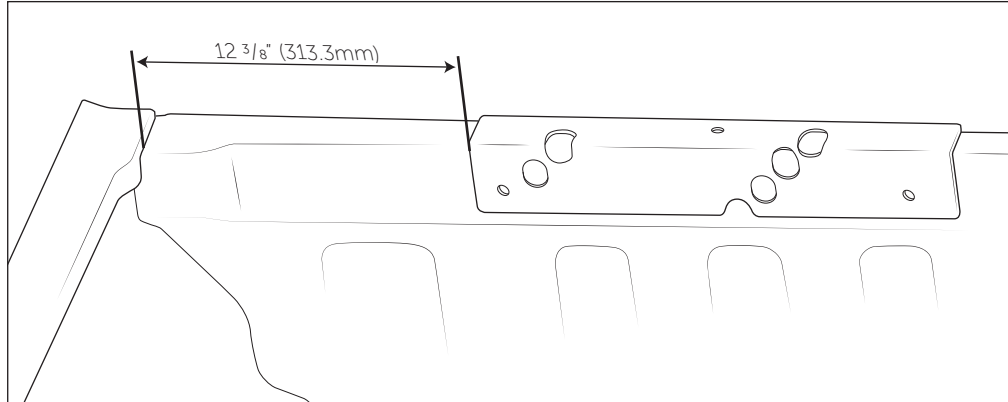

Figure 3
1. Place the Bulkhead Bracket into position **approximately** 12 3/8" from plastic bed rail (fig. 3). NOTE: This measurement is for **REFERENCE ONLY**. Step 3 will help in final alignment.